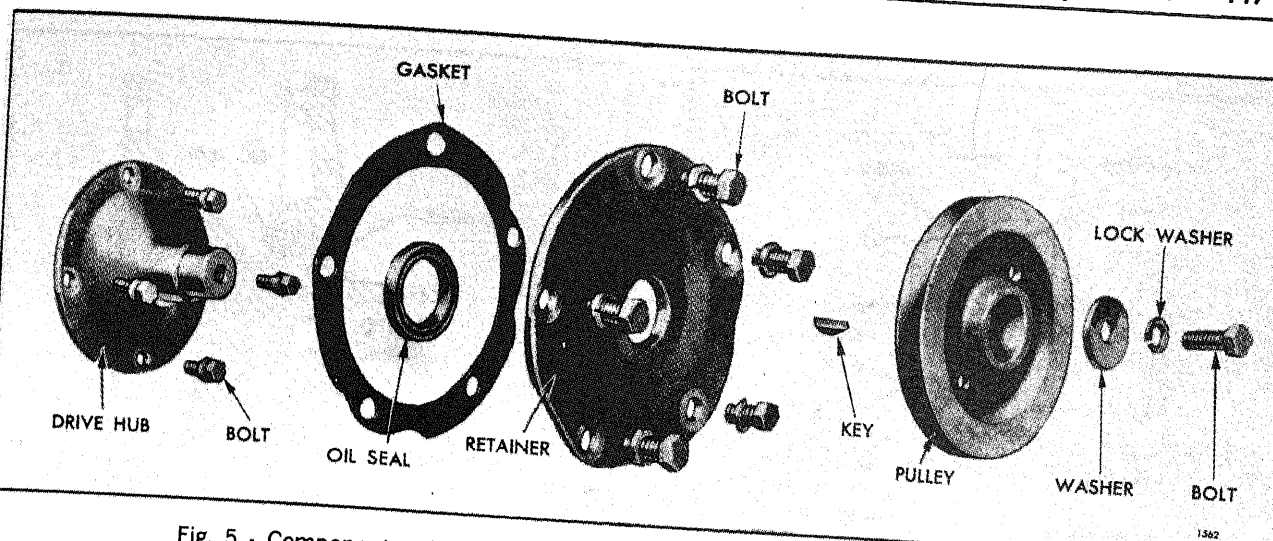

Fig. 5 - Components of Accessory Drive for Belt Driven Accessory (Drive Hub Type)
ven accessories, such as battery-charging s or air compressors, are driven off the or balance shaft gears by a drive hub and (Fig. 5), or a spacer, accessory drive plate, drive shaft, accessory drive retainer and pulley (Fig. 6).
t arrangement, illustrated in Fig. 5, the drive bolted to the camshaft or balance shaft gear. al retainer is bolted to the flywheel housing pulley is keyed to the drive hub shaft which through the oil seal retainer.
3. Remove the bolt and washer (Fig. 5), or nut (Fig. 6), retaining the pulley on the drive shaft.
6. Remove the accessory drive shaft, drive plate and spacer (Fig. 6), or drive hub (Fig. 5), in a manner similar to that outlined in Step 5 under removal of the direct gear driven type accessory drive.
the accessory drive hub, shown in Fig. 5, for at the area of contact with the lip of the oil the hub is grooved to a point where the ness of the oil seal is lost, a ring type oil seal available which serves to reposition the seal, viding a new sealing surface for the lip of the . 8).
5. Assemble the accessory drive shown in Fig. 5 as follows: